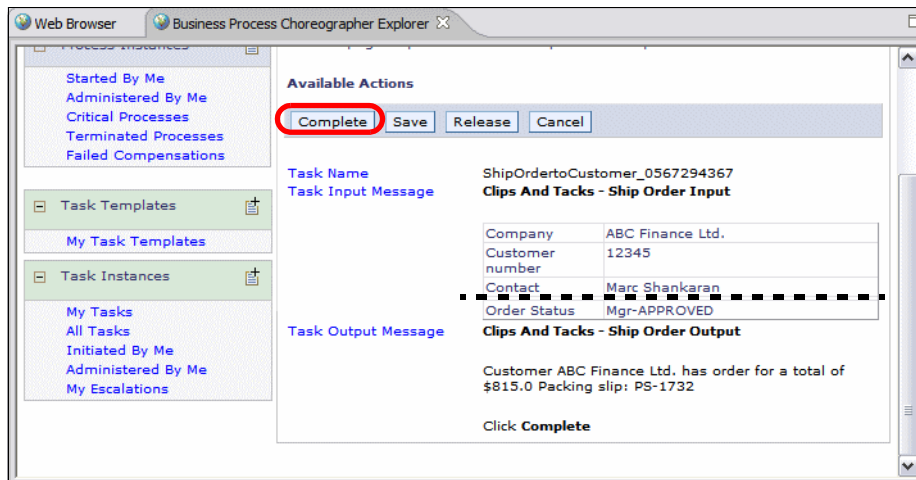

Figure 10-59 BPC Explorer: Custom JSPs for order shipment
- ▶ Select *Approve* and click *Complete*. After refreshing the task list, the process is now waiting for shipping. Select the *ShipOrdertoCustomer* task and click *Work on*. The custom JSPs for shipping are displayed (Figure 10-59).